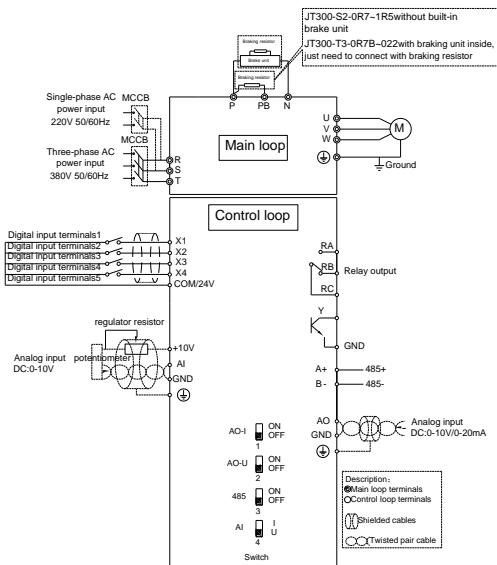

Figure 3-1 Schematic diagram of wiring up to 11kW
1) JT300 series inverters with power of 11kW and below is shown in figure 3-1.: